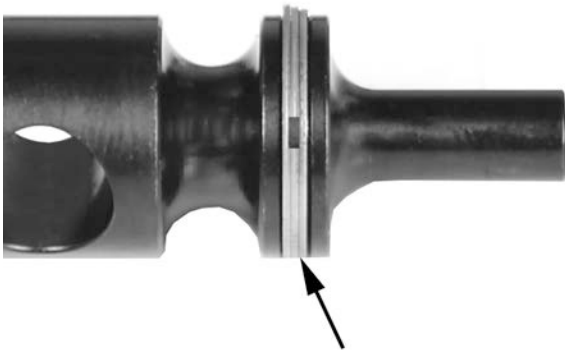

Figure 36
1. Stagger the gaps in the three gas rings 120° apart around the bolt. Do not align the gaps. See figure 36.